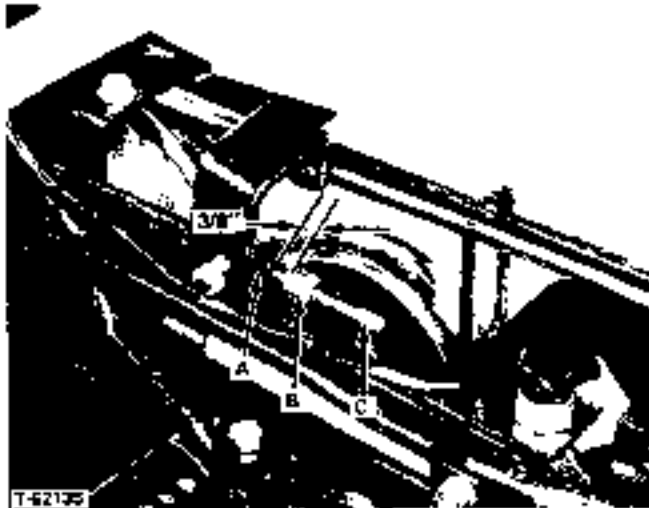

FIGURE 35 - Clutch Rod Clearance Adjustment
- Pull back firmly on the clutch rod (C, Figure 35). There should be a  $3/8$ " (9.5 mm) gap between the clutch rod guide (A) and the clutch rod adjusting nut (B).